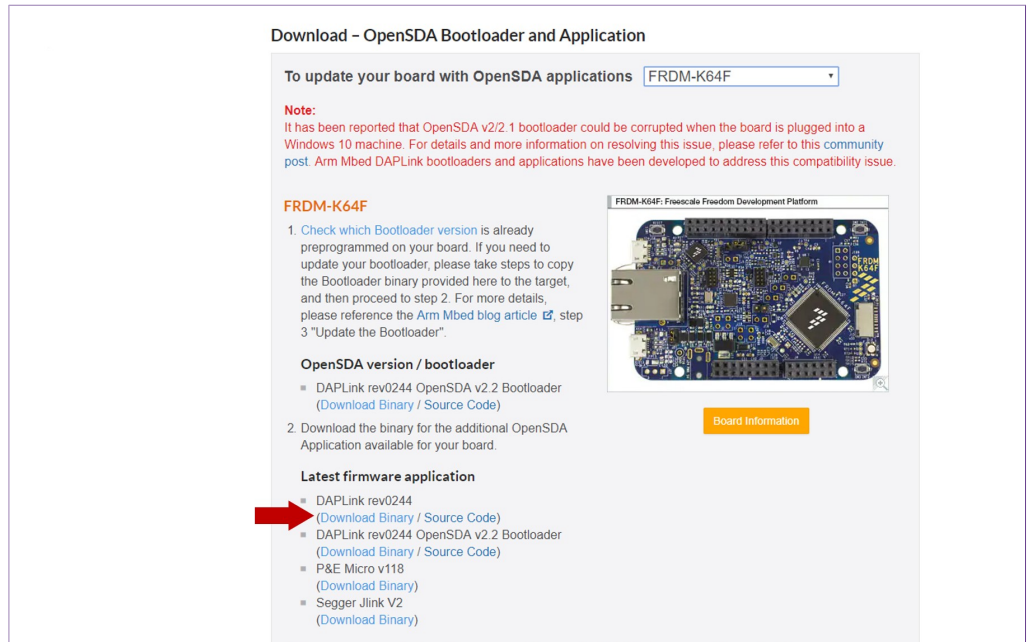

Figure 2. DAPLink firmware update - select board
3. Download the latest DAPLink firmware version as shown in Figure 2: